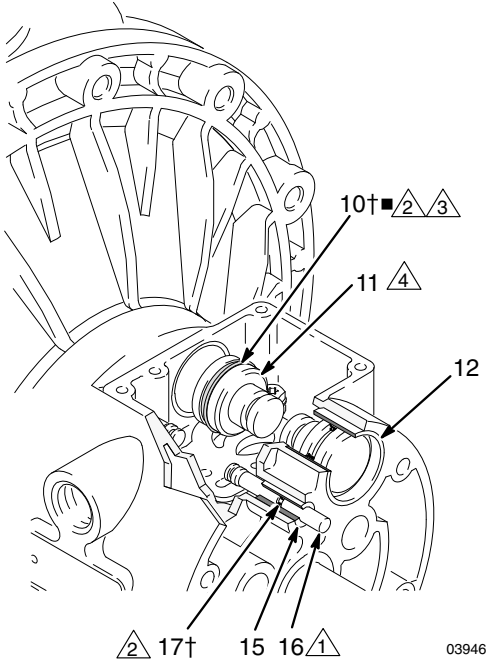

FIG. 8
4. Pull the two actuator pistons (11) out of the bearings (12). Remove the u-cup packings (10) from the pistons. Pull the pilot pins (16) out of the bearings (15). Remove the o-rings (17) from the pilot pins. See Fig. 8.
6. Inspect the bearings (12, 15) in place. See Fig. 8. The bearings are tapered and, if damaged, must be removed from the outside. This requires disassembly of the fluid section. See page 22.
4. Install an o-ring (17†■) on each pilot pin (16). Grease the pins and o-rings. Insert the pins into the bearings (15), **narrow** end first. See FIG. 8.
5. Install a u-cup packing (10†■) on each actuator piston (11), so the lips of the packings face the **narrow** end of the pistons. See FIG. 8.
6. Lubricate the u-cup packings (10†■) and actuator pistons (11). Insert the actuator pistons in the bearings (12), **wide** end first. Leave the narrow end of the pistons exposed. See FIG. 8.